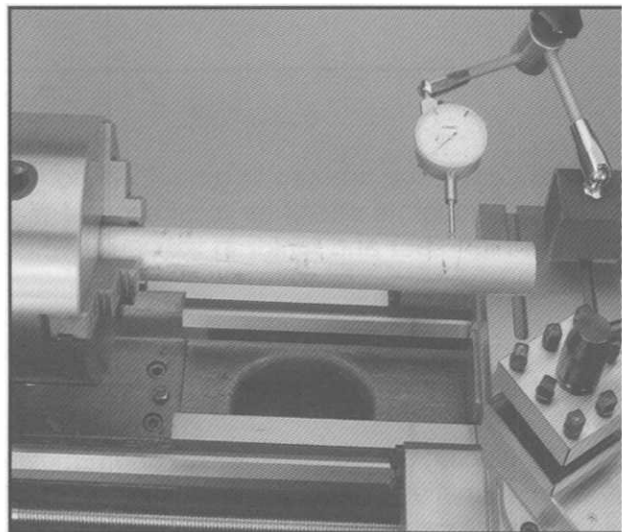

Figure 12
2. Using your dial indicator, measure the bar stock at three points; the end closest to the chuck, the middle of the bar and the end of the bar. See Figures 12 and 13.